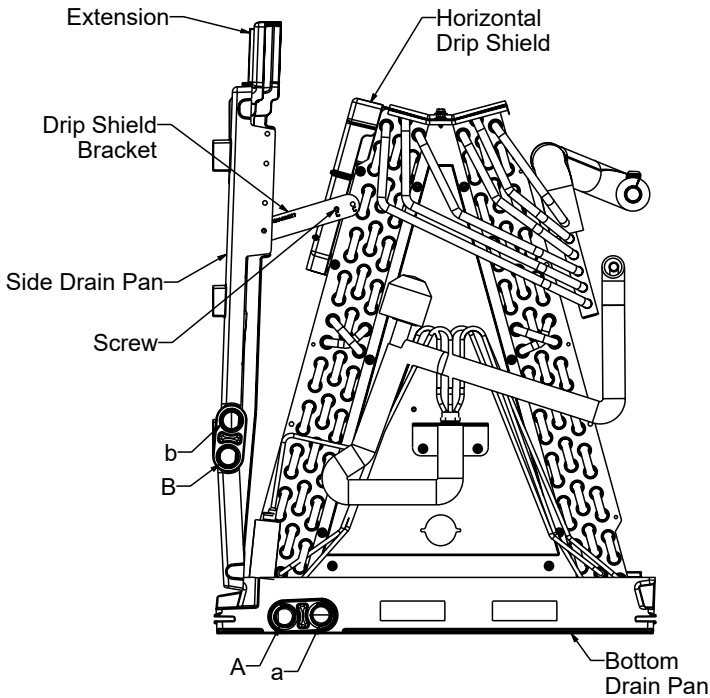

FIGURE 1
Side Drain Pan and Extension Removal: Refer to Figure 1; remove the two (2) screws that secure the drip shield support brackets to the horizontal drip shield (front and back). Unsnap the side drain pan from the bottom drain pan using a screw driver or any small lever. The side drain pan, drip shield brackets and the drain pan extension may now be removed. From Figure 1, drain port labeled (A) is the primary drain for this application and condensate drain line must be attached to this drain port. Drain port (a) is for the secondary drain line (if used).
Drain port labeled (B) in Figure 1 is the primary drain for this application and condensate drain line must be attached to this drain port. Drain port (b) is for the secondary drain line (if used).
Drain port labeled (B) in Figure 1 is the primary drain for this application and condensate drain line must be attached to this drain port. Drain port (b) is for the secondary drain line (if used). In applications where the air handler is installed in the horizontal left position, and the return air environment see humidity levels above 65% relative humidity coupled with total external static levels above 0.5" e.s.p., installation may require a field fabricated or field supplied secondary drain pan under the coil cabinet enclosure.